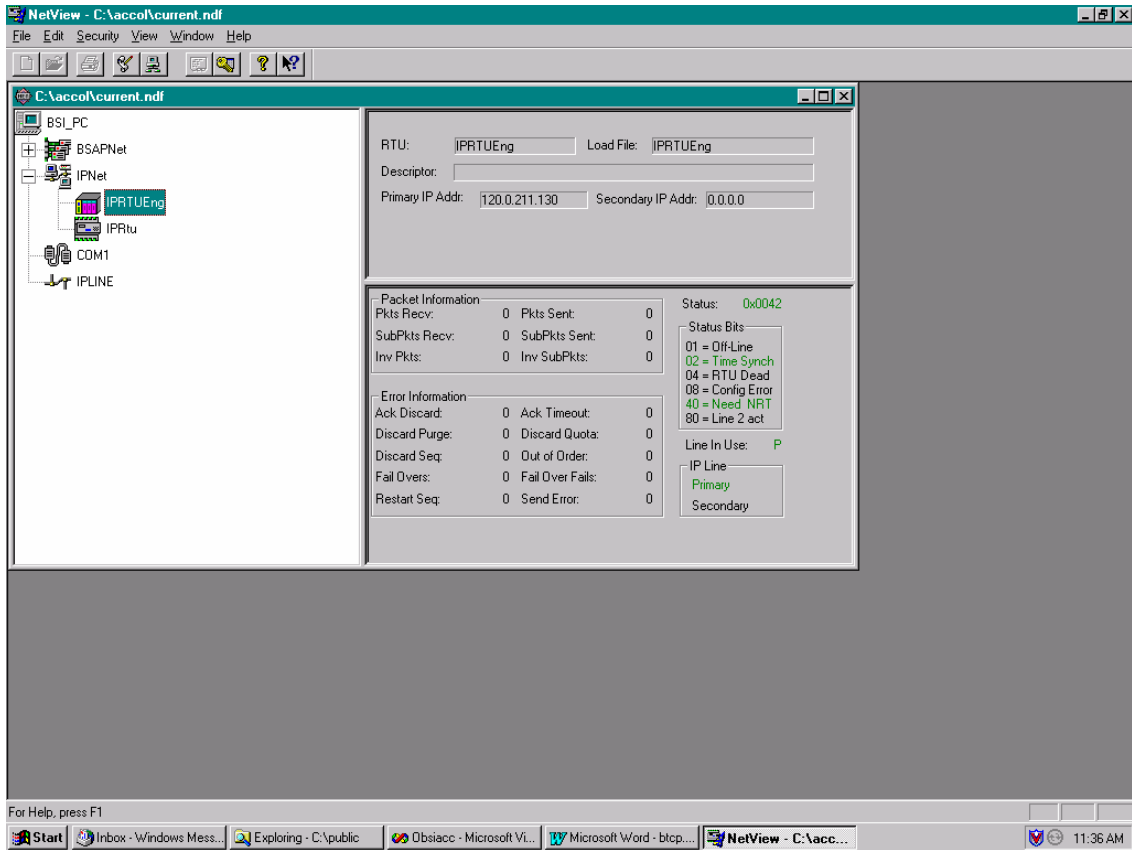

Figure 3-7 - Netview Startup Menu - Example with Multiple Networks
1. Start the OpenBSI NetView Program. A menu similar to Figure 3-7 will appear.